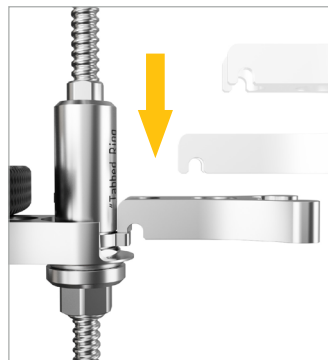

Figure 207A
2. Seat the end of the wrench prongs into the square hook of the safety clip. **(Figures 207A-B)**